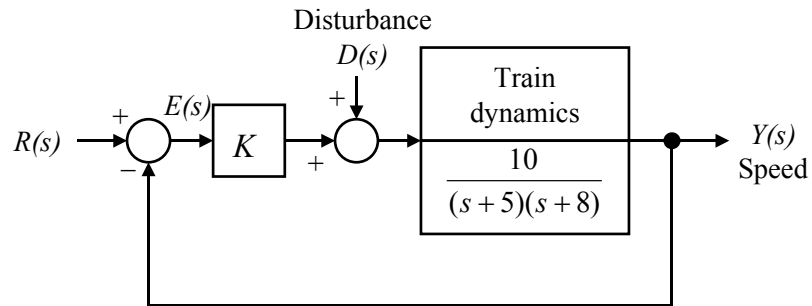

Figure P3. Speed Control.
3. The speed control of a high-speed train is represented by the system shown in Fig. P3. Determine the equation for steady-state error for K for a unit step input $r(t)$. Consider the three values for K equal to 1, 10 and 100.